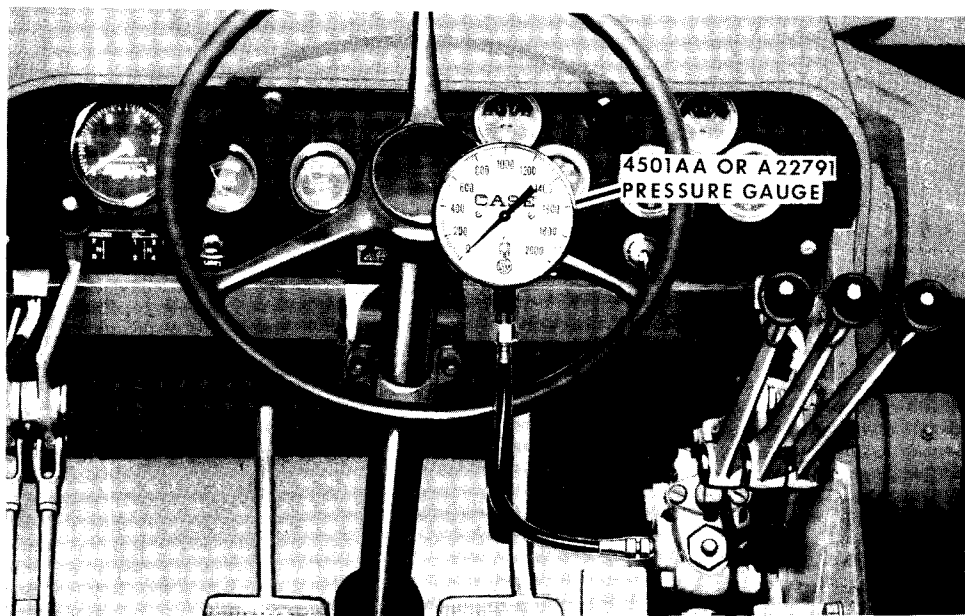

Figure 74
4. Install a 4501AA or A22791 Pressure Gauge in the threaded opening shown in Figure 74.